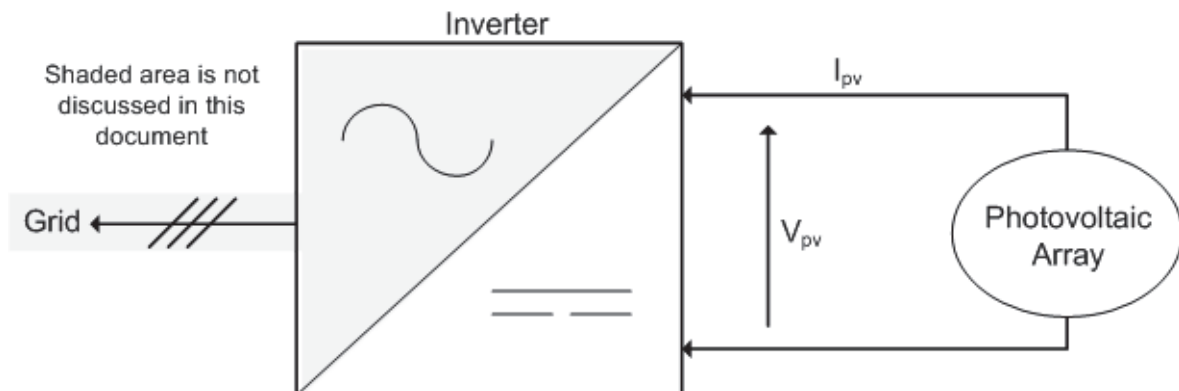

Figure 1 Inverter relationship to PV array and grid
The Schneider Electric Conext Core XC and XC-NA Series inverters are designed to help optimize the drawing of power from photovoltaic (PV) arrays. The relationship between the inverter, PV array, and grid is shown in Figure 1.